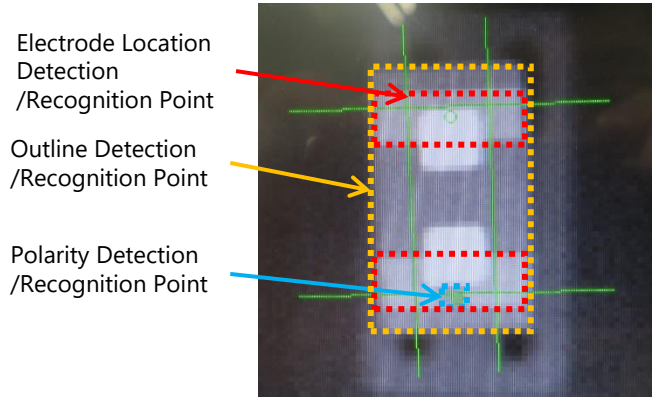

Figure 17. Correct/Incorrect reference Points to Locate the Center of the LED
3. If an automatic polarity detector is used for the LEDs to determine the polarity, set up the imaging device to detect the cathode mark; it is enclosed with a blue dotted line in Figure 17. The equipment will detect the difference in brightness at the cathode mark and at the area around it to determine the polarity.